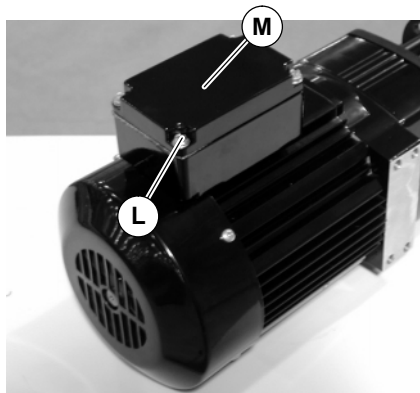

Figure 7
- a. Loosen terminal box screws (L of Figure 7) and remove cover (M).